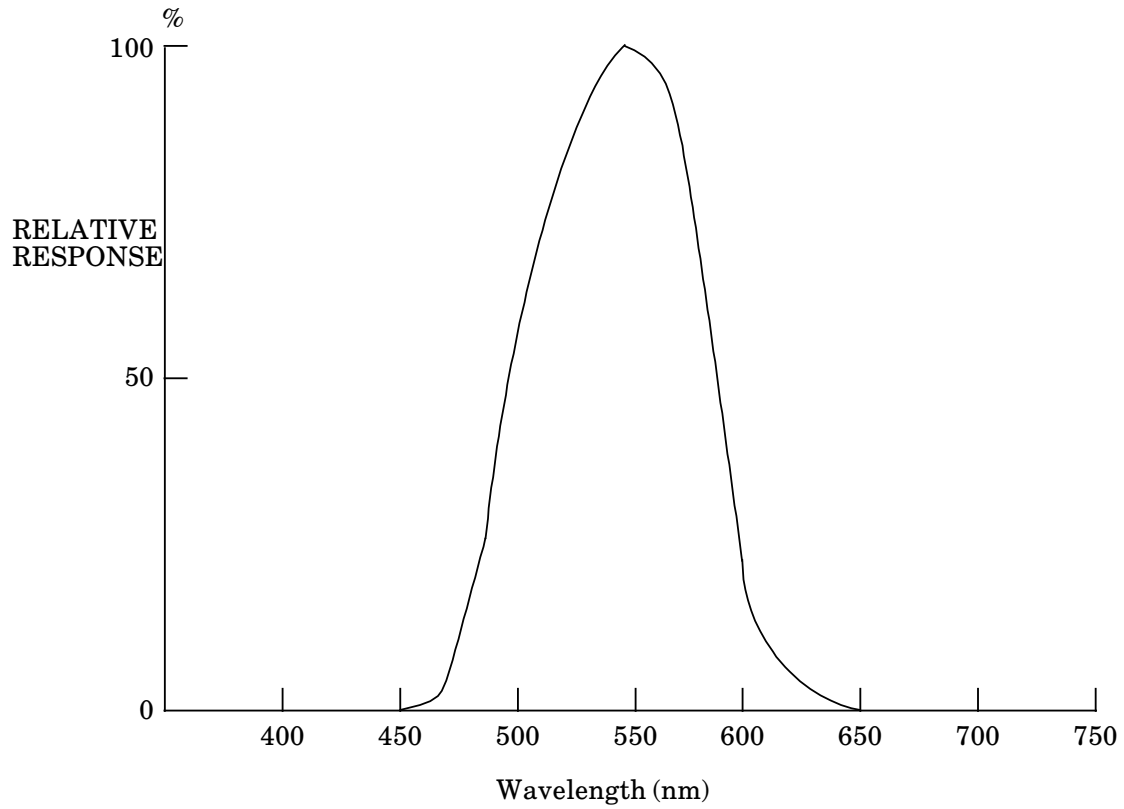

Figure C.1 Spectrum band
- (1) The spectrum band shown in Figure C.1 is used to measure print density.
- (2) The measurement must be made in one of the following ways :